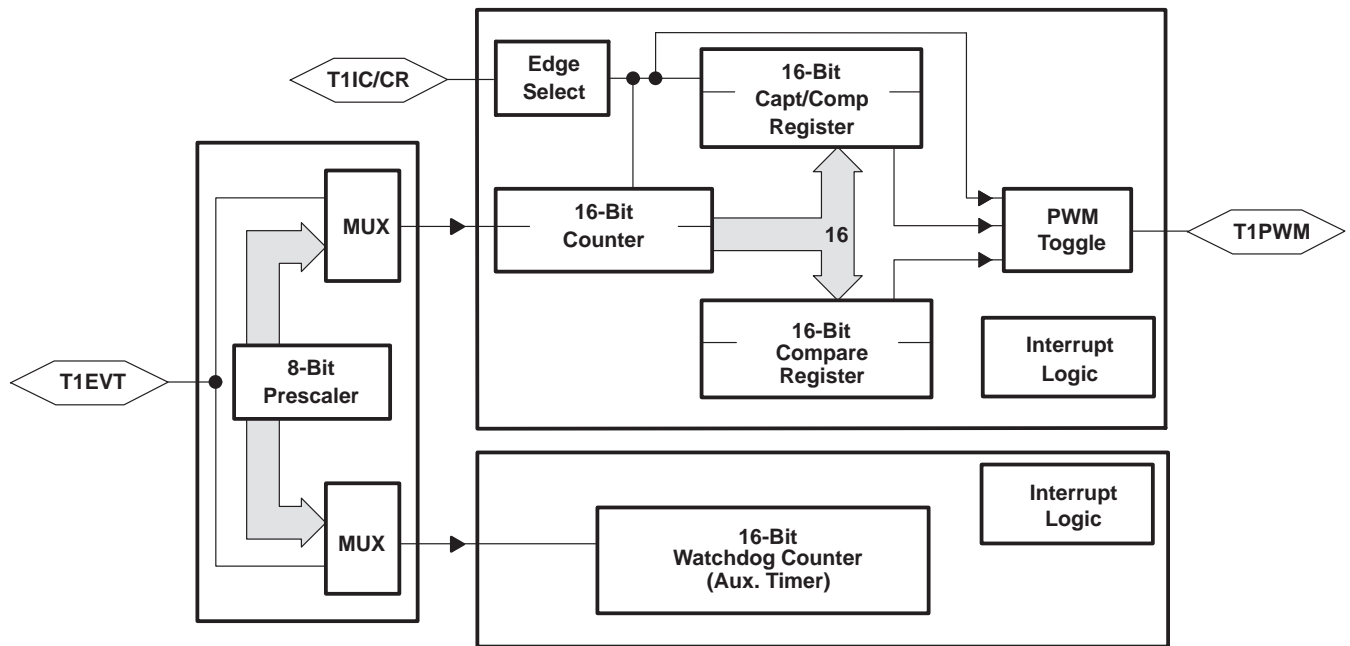

Figure 5. Timer 1 Block Diagram
The programmable timer 1 (T1) module of the TMS370Cx7x provides the designer with the enhanced timer resources required to perform real-time system control. The T1 module contains the general-purpose timer and the watchdog (WD) timer. The two independent 16-bit timers, T1 and WD, allow program selection of input clock sources (real-time, external event, or pulse-accumulate) with multiple 16-bit registers (input capture and compare) for special timer function control. The T1 module includes three external device pins that can be used for multiple counter functions (operation-mode dependent) or used as general-purpose I/O pins. The T1 module block diagram is shown in Figure 5.